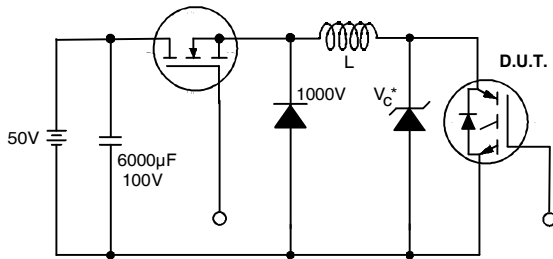

Figure 19. Clamped Inductive Load Test Circuit
- $V_{CC} = 80\%(V_{CES})$, $V_{GE} = 20V$, $L = 10\mu H$, $R_G = 100\Omega$, (See fig. 19).